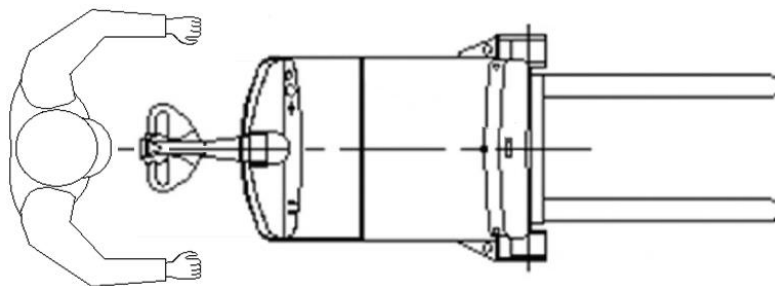

Figure 3: NORMAL OPERATING POSITION
- Normal operating position is designated as the operator being located along the centreline at the rear of the lift truck behind the handle; as displayed in Figure 3 below.